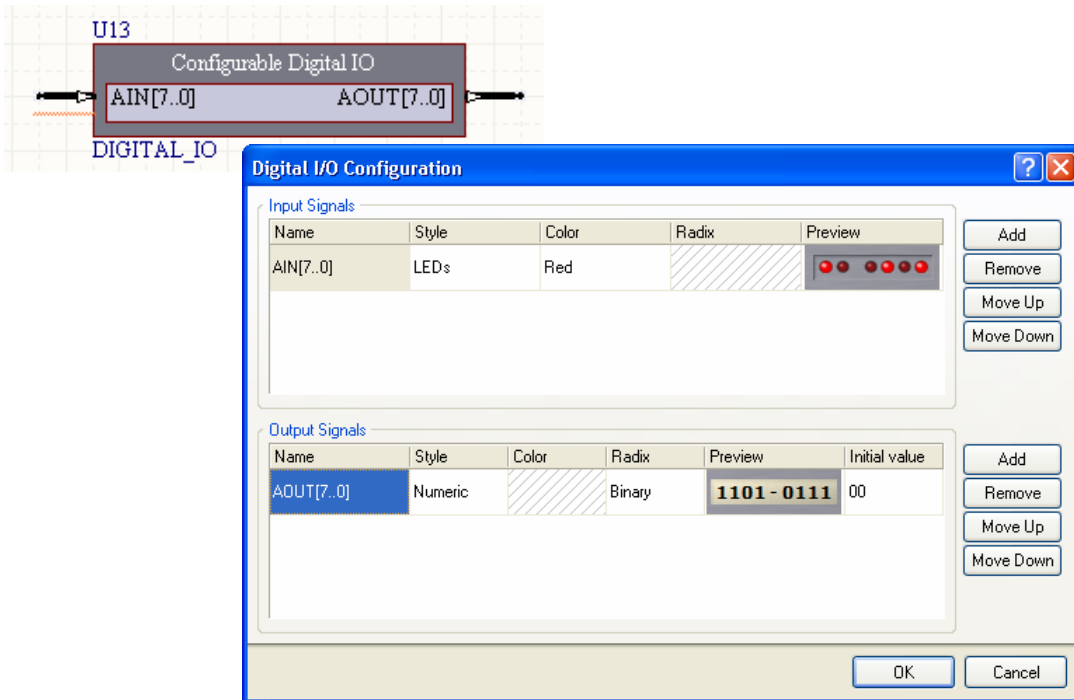

Figure 33. Access to controls for configuring the Digital IO instrument.
3. Right-click on the instrument and choose **Configure U13 (DIGITAL_IO)** from the menu to access the *Digital I/O Configuration* dialog. (Figure 33). Notice that by default, the instrument is configured to have a single 8-bit input bus (`AIN[7..0]`) and a single 8-bit output bus (`AOUT[7..0]`).